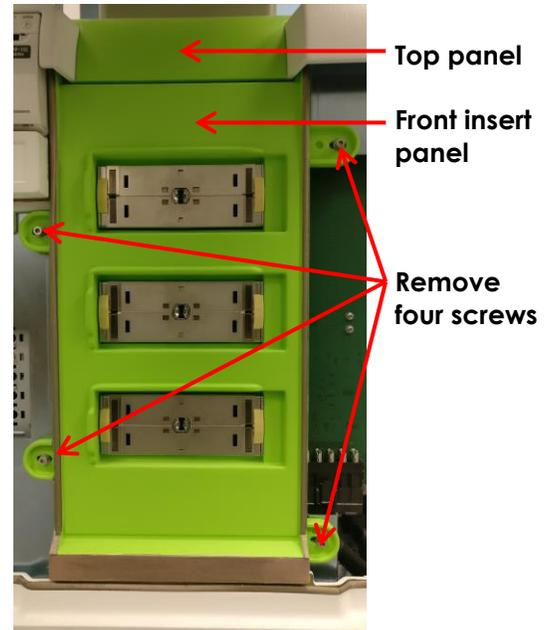

Figure 49: Front Insert Panel
1. Using a 3 mm hex driver, remove the four screws securing the front insert panel (refer to Figure 49).